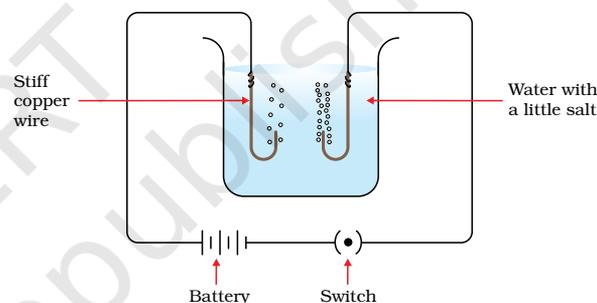

Figure 46.1
1. Take two long dcc (double cotton covered) copper wires and fold one end of each into U-shape as shown in Fig 46.1.